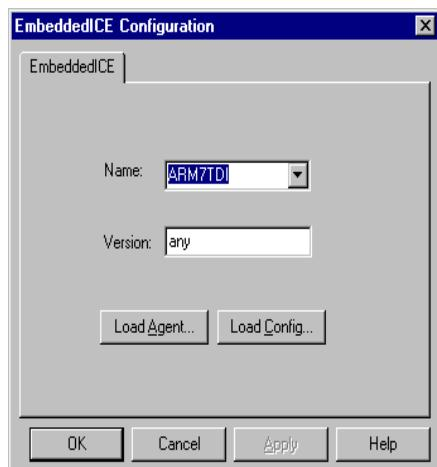

Figure 3-20 Configuration of EmbeddedICE target
1. Select **Configure EmbeddedICE** from the **Options** menu. The configuration dialog is displayed (Figure 3-20).